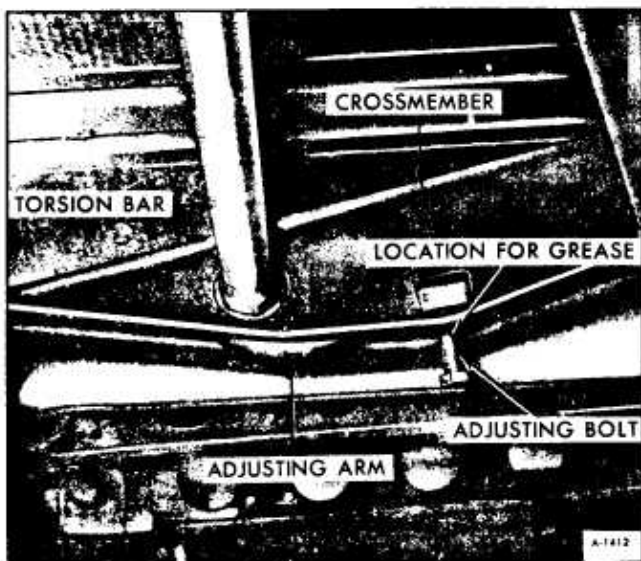
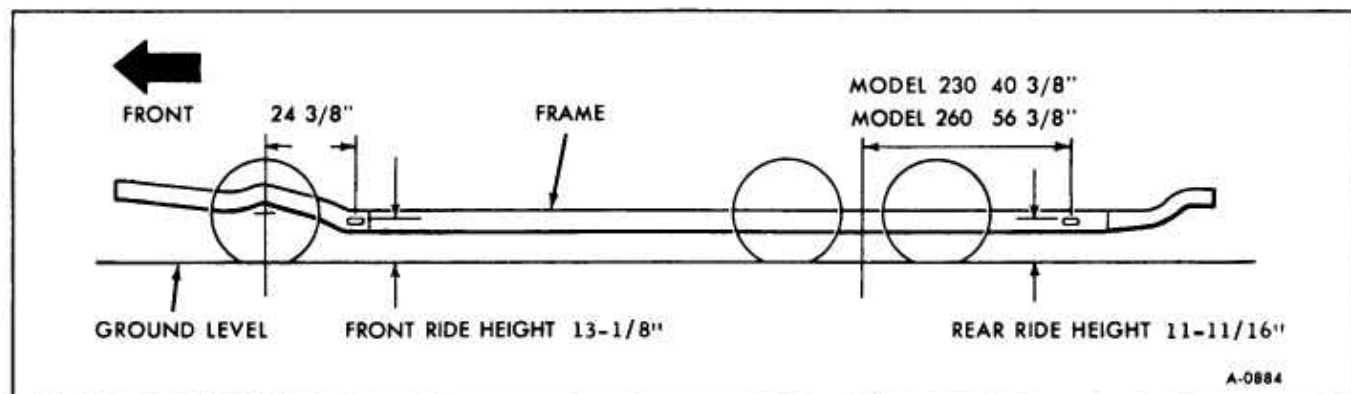

Figure 30—Location For Front Ride Height Adjustment
Figure 31—Motor Home Ride Height
Measurements must be taken from the oval hole in the frame rail to the floor (figure 31). **NOTE:** Never attempt to increase the ride height of the Motor Home using the adjusting bolt (figure 30) while
1. Check the ride height dimension (figure 31). If not within specifications refer to "RIDE HEIGHTS" in this section.